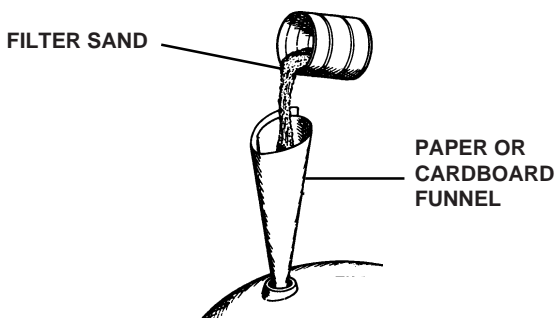

FIG 4.
Install all bolts (20), washers (21) and nuts (30). Tighten bolts and nuts in a uniform manner opposite each other while working around the tank. Remove top tank plug (17) and O-Ring (18) and set aside. Construct a funnel from heavy paper or lightweight cardboard (See Fig. 4). Place funnel in opening and pour the remaining sand directly into tank. It will be easier to use a small can instead of pouring directly from bag. When all the sand is in the tank, clean sand off plug and O-Ring seat area. Replace tank plug and O-Ring.